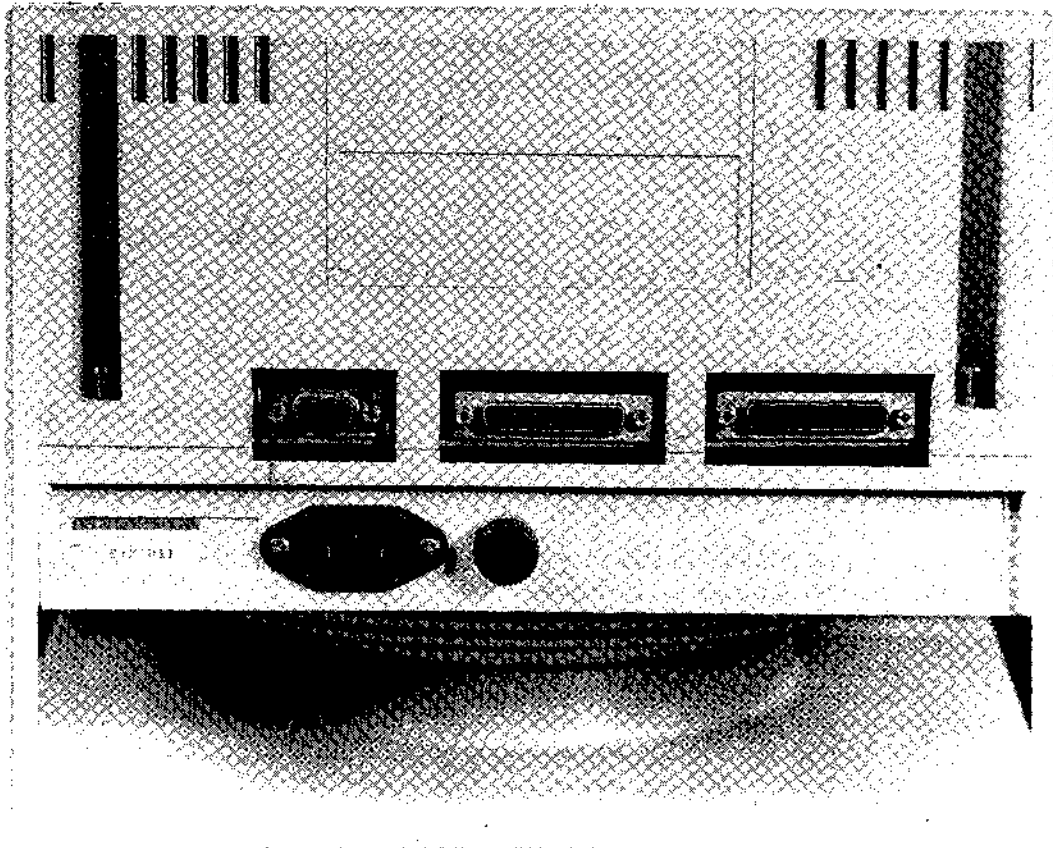

Figure 5-1. Rear of Terminal
**5.1.3 EIA Input/Output Connector.** The standard EIA input/output connector located on the rear of the terminal (see figure 5-1) provides the connection to the appropriate data set or acoustic coupler. The signals conform to EIA Standard RS-232C. These are listed in table 5-1.
The auxiliary input/output connector is located at the rear of the terminal (see figure 5-1). It provides the EIA RS-232C voltage level signals listed in table 5-2.